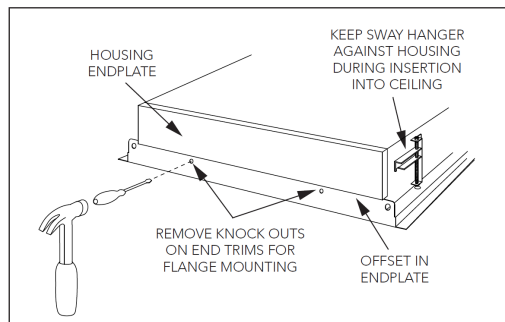
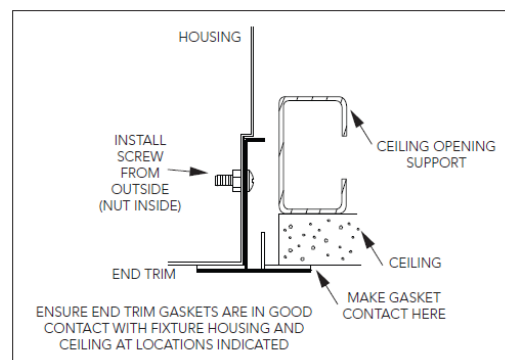
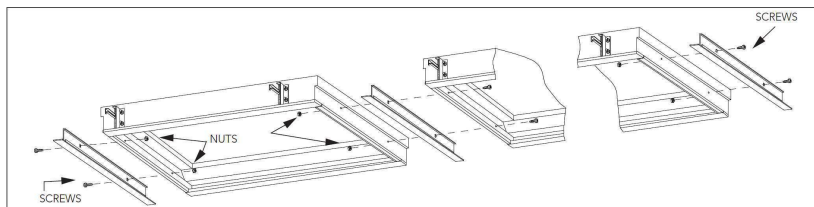

Figure 5
Figure 6
Figure 9
Install trims by locating the two mounting hole knockouts and use a pointed tool and hammer to push in and breakout all the knockouts from each of the fixture endplates. (See Figure 5) Position the trim piece so that its center spline rests against the end cap (as illustrated in Figure 6) with the mounting holes aligned with the holes in the end cap. Insert the screws through the trim piece and through the end cap from the outside of the fixture. Thread the nut onto the screw and tighten. Repeat this step on the other end of the fixture.
- Check to make sure the sway bracket hangers, mounted on the outside walls of the fixture (See Figure 5), are resting against the side of the fixture. Carefully lift the fixture resting it on a support surface just below the ceiling.
- Continue turning the sway bracket adjustment screws clockwise, alternating between locations, until the fixture fits snug against the ceiling. Make sure the end trim fits against the ceiling as shown in Figure 6.
2. Each STR flanged fixture has been supplied with two end trims that need to be installed on the first and last fixture of the row before securing it to the ceiling. Identify the first and last fixture that will make up the row. A trim piece will need to be secured to the outside facing ends of the row as shown in Figure 9. Do this before mounting any of the fixtures since access to the end of the rows will be limited once the fixtures are installed. The trim pieces are secured to the end cap of the fixture as shown in Figure 6. (The end cap can be identified by its offset profile.) Install trims by locating the two mounting hole knockouts and use a pointed tool and hammer to push in and breakout all the knockouts from each of the fixture endplates. (See Figure 5) Position the trim piece so that its center spline rests against the end cap (as illustrated in Figure 6) with the mounting holes aligned with the holes in the end cap. Insert the screws through the trim piece and through the end cap from the outside of the fixture. Thread the nut onto the screw and tighten. Repeat this step on the fixture at the other end of the row.
4. Start row installations with the first fixture prepared with the end trim located at the end of the row. Check to make sure the sway bracket hangers are located so they are touching the side of the fixture (Figure 5). If there is not space to work on the electrical fittings on top of the fixture when installed, then the fixture will need to be supported just below the ceiling during installation of the wiring, conduit and fittings.
7. Continue turning the sway bracket adjustment screws clockwise, alternating between locations, until the fixture fits snug against the ceiling. Make sure the end trim fits against the ceiling as shown in Figure 6.